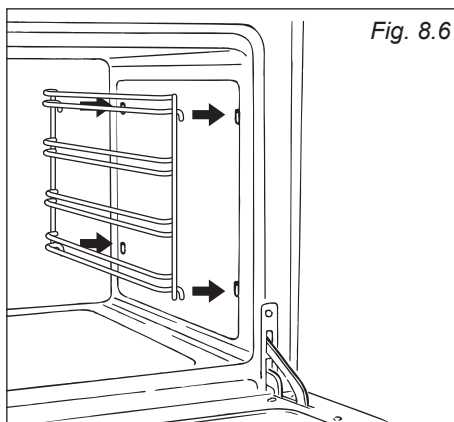

Fig. 8.6
- Fit the side runner frames into the holes on the side walls inside the oven (fig. 8.6).